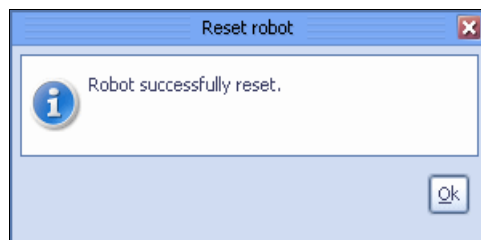

Figure 10-111 Reset robot confirmation window
4. Click **OK**. The tape robot is reset (Figure 10-111).